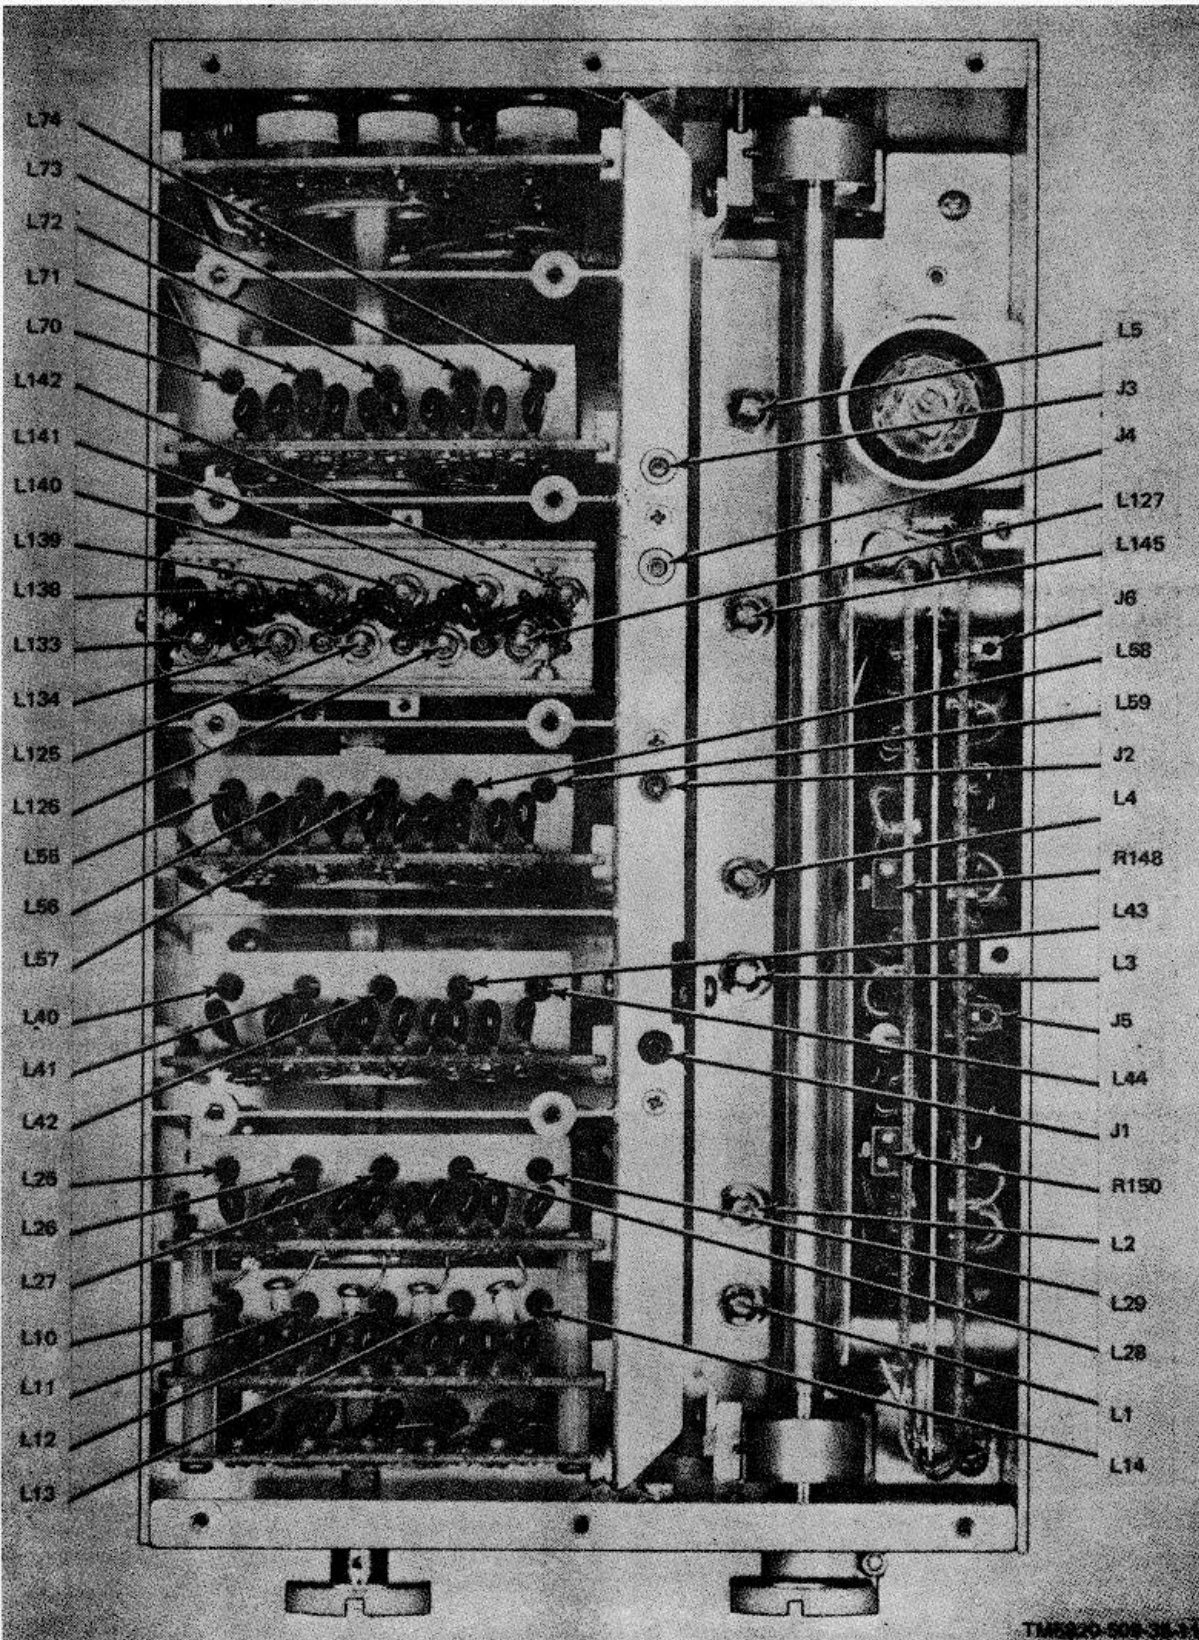
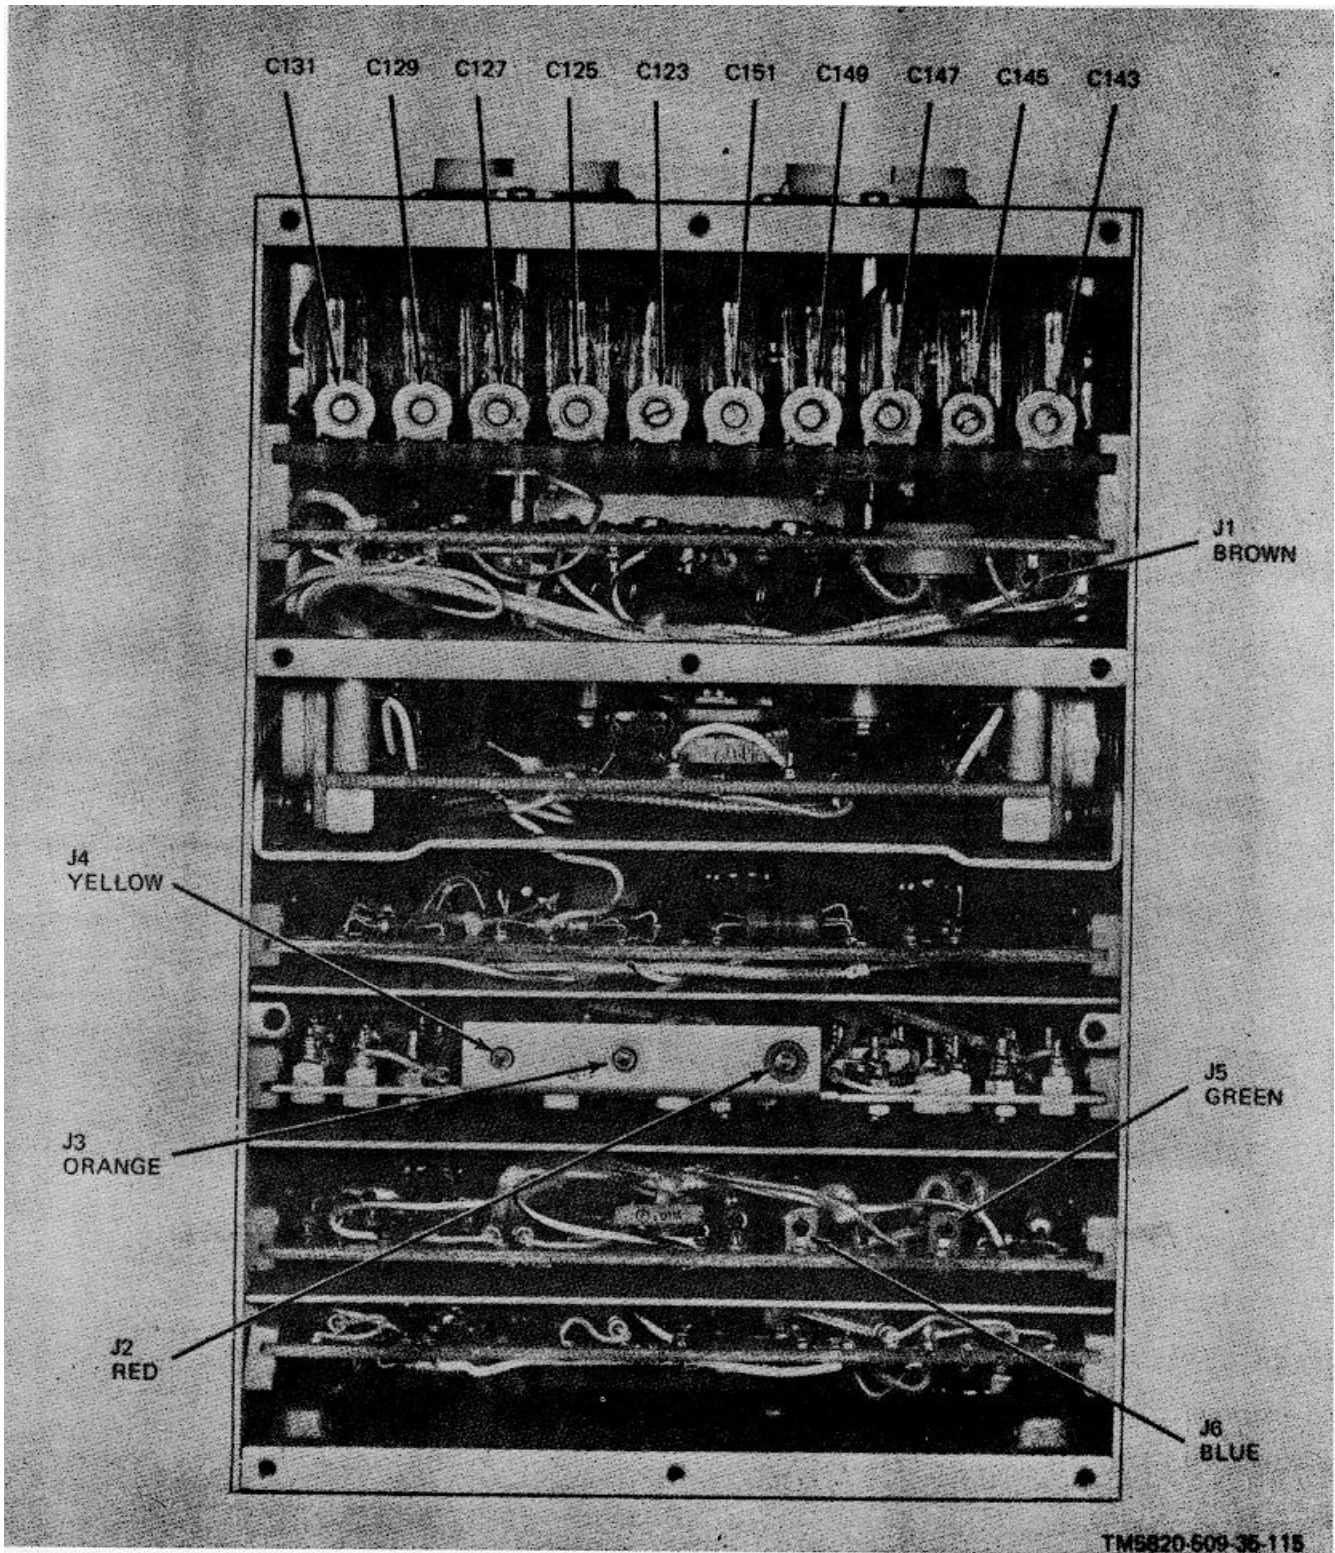

Figure 3-96. Signal Data Translator CV-1377A-PRC-47(A8A3), Top View, Location of Test Points and Adjustments.
Figure 3-100. Oscillator Control C-4311-PRC-47 (A8A7), Top View, Location of Test Points and Adjustments.
a. *Test Procedures.* Measure the clearance between halves of the slug rack coupler (fig. 3-96) with a feeler gage. Clearance must be 0.002- to 0.020-inches. If not, adjust in accordance with step b.
(1) Remove the RT-671/PRC-47 from its case using the procedures detailed in paragraph 3-11.
(2) Connect the primary power source to the POWER connector on the front panel of RT-671 //PRC-47.
(3) Connect the dc test probe of Multimeter ME-26A/U alternately to test jacks A7J5 and A7J6 of Oscillator Control C-311/PRC 47 (fig. 3-100).
(4) Set the front panel controls of TR-671/PRC-47 as follows:
(5) Loosen the setscrew that clamps the shaft collar to the slug rack coupling half and slide the coupling half along the axis of the drive shaft until specification clearance is obtained.